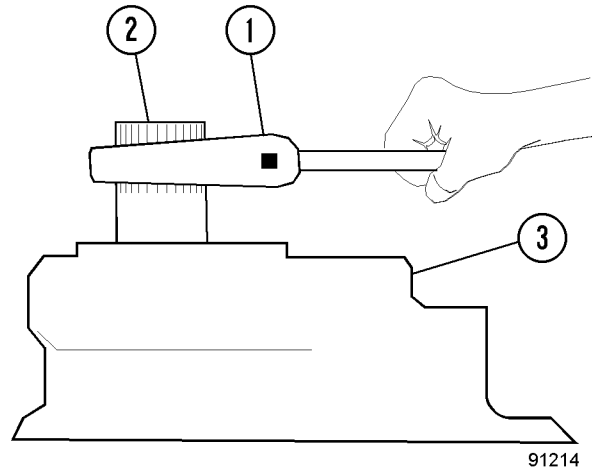

FIGURE 3-17. CHECKING PUMP DRIVE SHAFT ROTATION
27. Use a 45 cm (18 inch) adjustable wrench to check the pump drive shaft rotation. The drive shaft will be tight but should turn freely with a maximum torque of  **$15 \text{ N}\cdot\text{m}$  ( $10 \text{ ft lb}$ )** after the initial surge. See Figure 3-17.